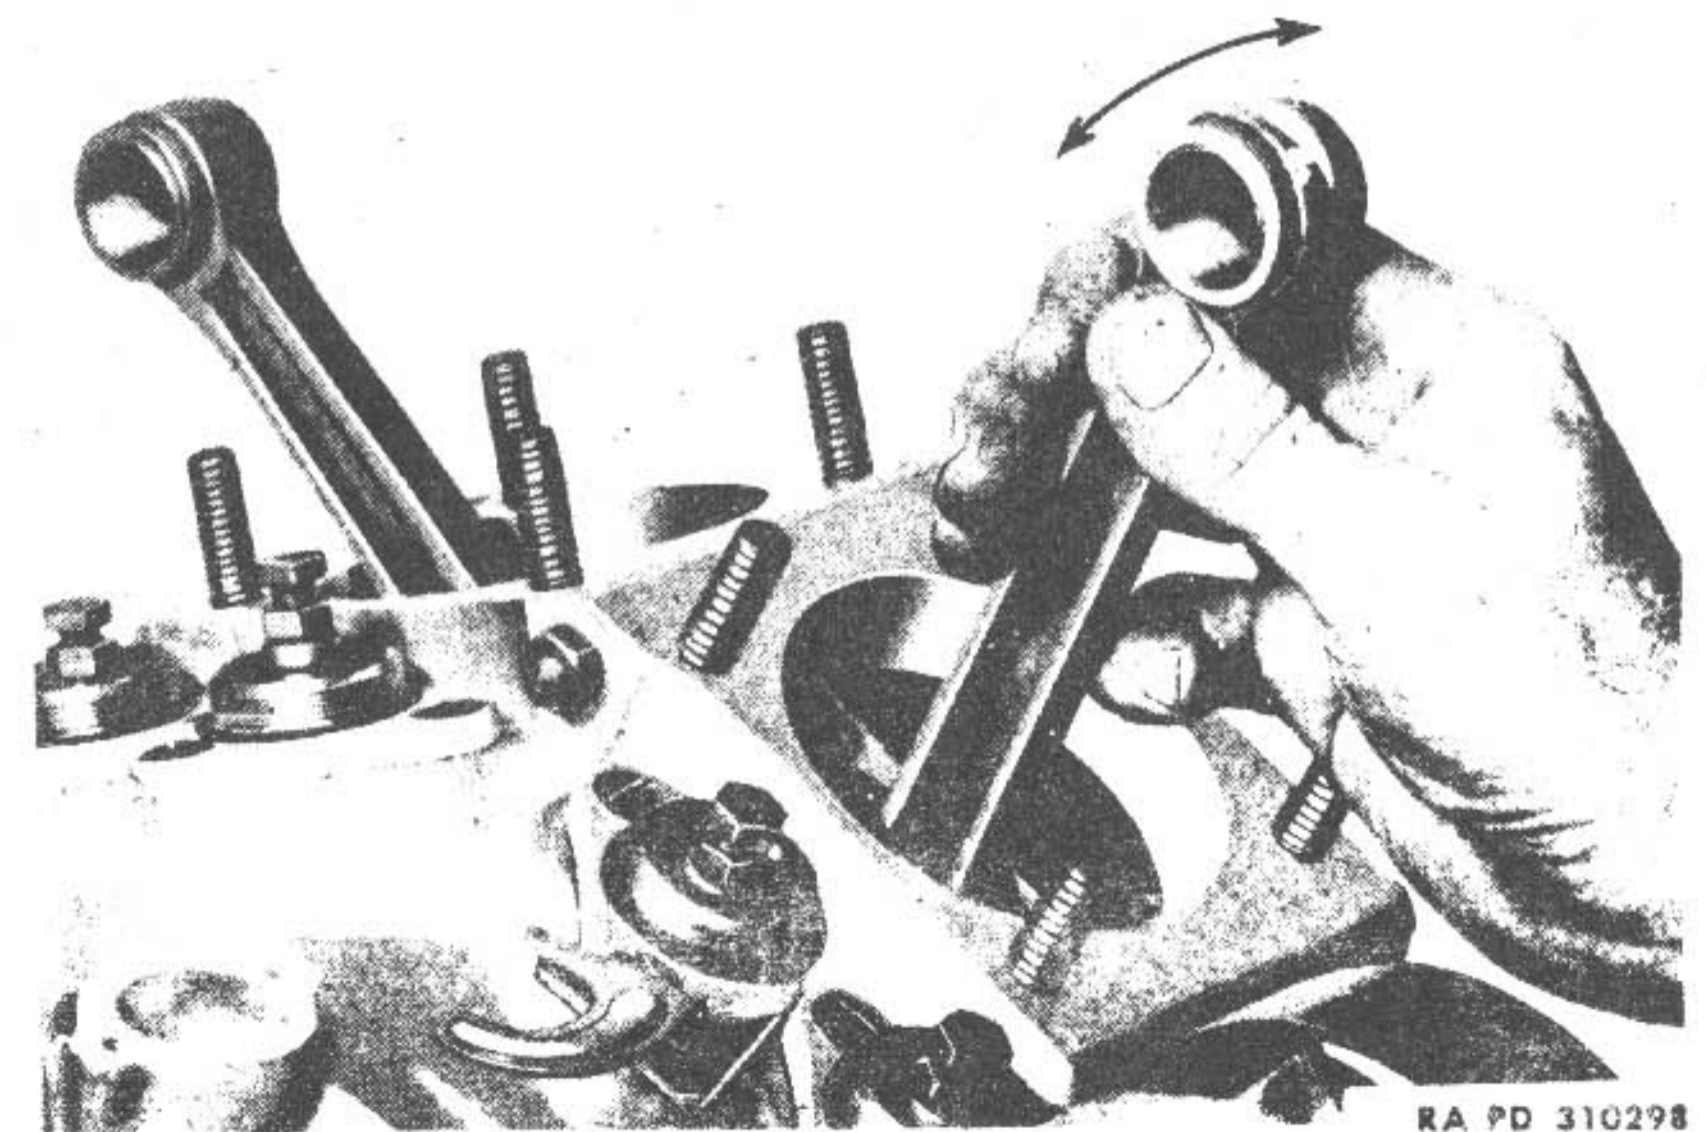

Figure 6—Inspecting Connecting Rod for Bearing Play
(2) Use a soft drift slightly smaller ($25/32$ in. dia) than the piston pin and drift pin (with light hammer blows) out of piston, taking care not to damage pin, piston bosses, or bend the connecting rod.
a. Inspect Rods for Up and Down Play and Upper End Side Shake (fig. 6). When appreciable up and down play is found and